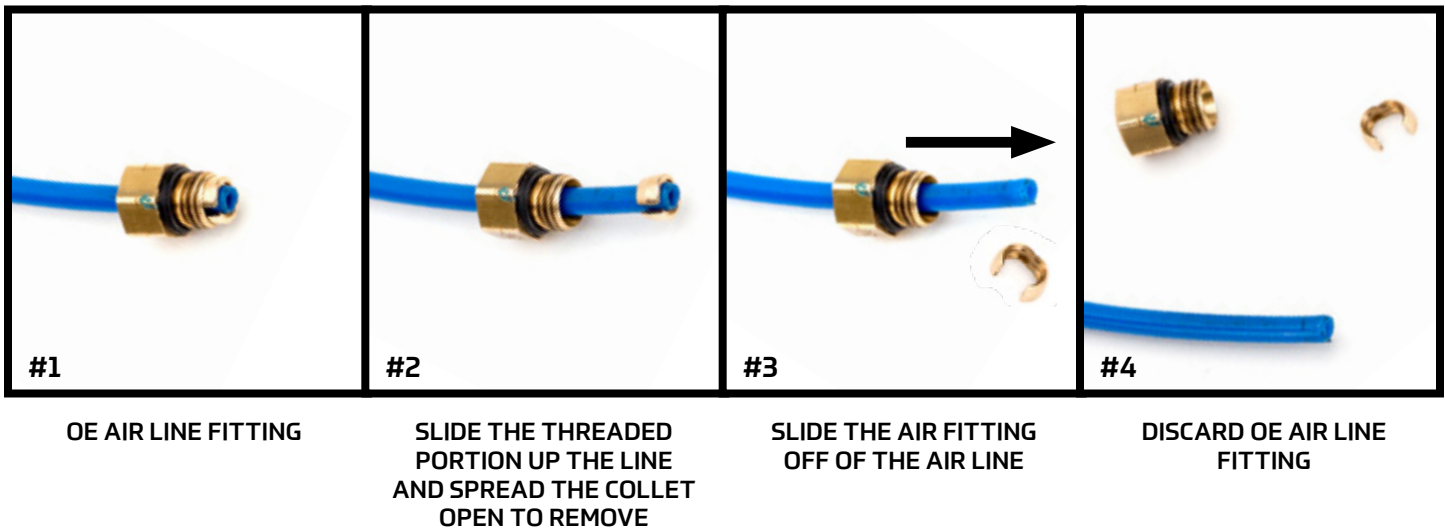

FIGURE 4
4. Remove used air line fitting from the air line and discard. Use the figure below as an example. (Figure 4)